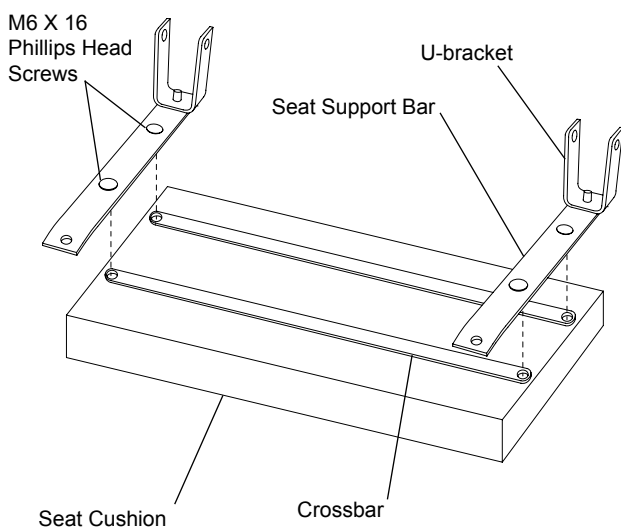

Figure 1 - Attaching Seat
1. With the Seat Cushion facing down, align the holes of the Crossbars with the seat. Then align the holes of the Seat Supports Bars and attach with four M6 x 16 Phillips Head Screws.as shown in Fig. 1.